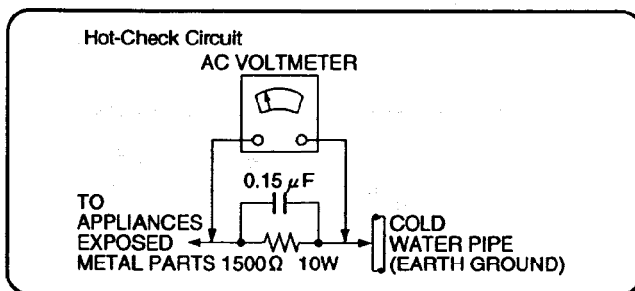

Figure 1
LEAKAGE CURRENT HOT CHECK (See Figure 1.)
2. Connect a 1.5k Ω , 10 watts resistor, in parallel with a 0.15 μ F capacitors, between each exposed metallic part on the set and a good earth ground such as a water pipe, as shown in Figure 1.